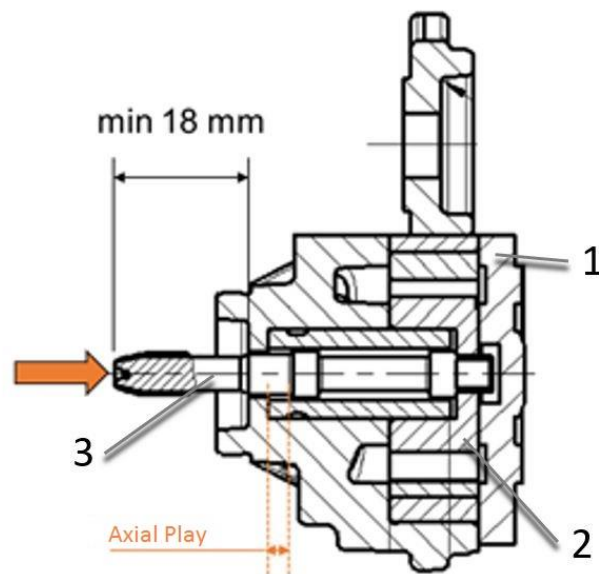

Figure 4. Structure of auxiliary hydraulic pump.
- c. Now you can see the drive shaft of the auxiliary hydraulic pump. The auxiliary hydraulic pump in the gearbox is constructed as shown in the example (Figure 4):